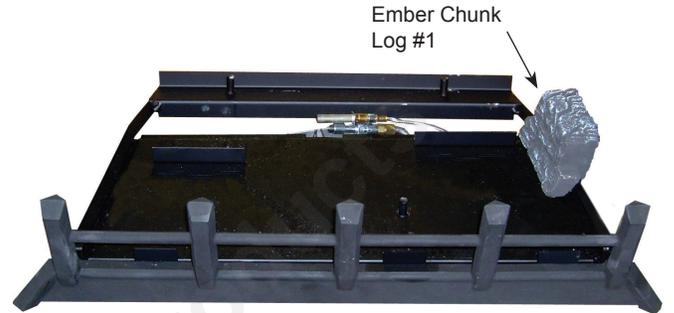

Figure 31.
- Place the #1 log (the "chunk") on the grate bar right side of the burner adjacent to the controls. Figure 31